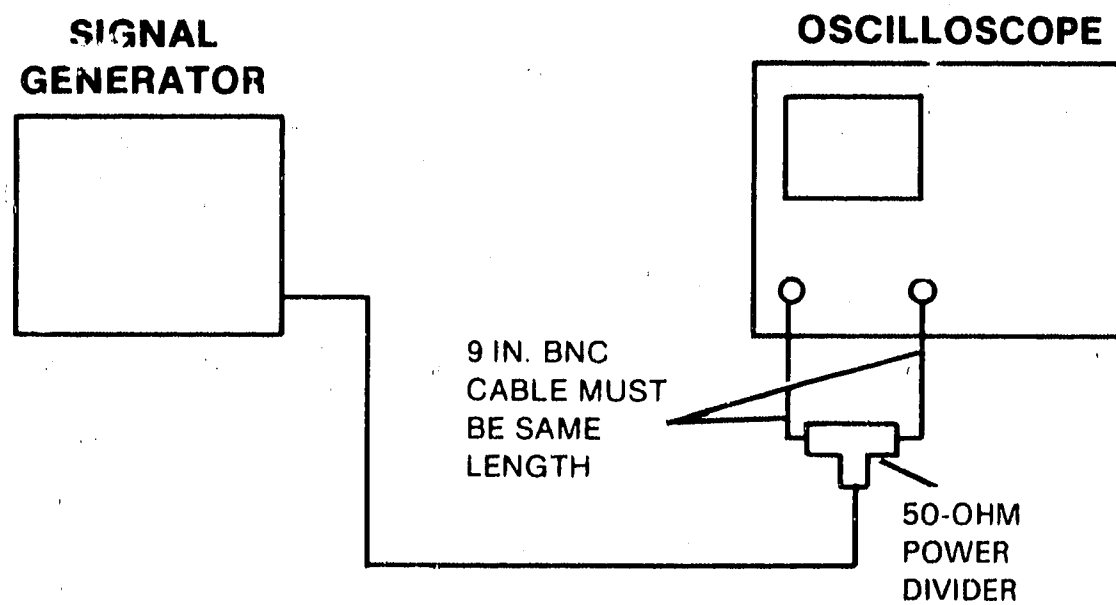

Figure 4-2. CMRR Test Setup
a. Connect equipment as shown in figure 4-2.